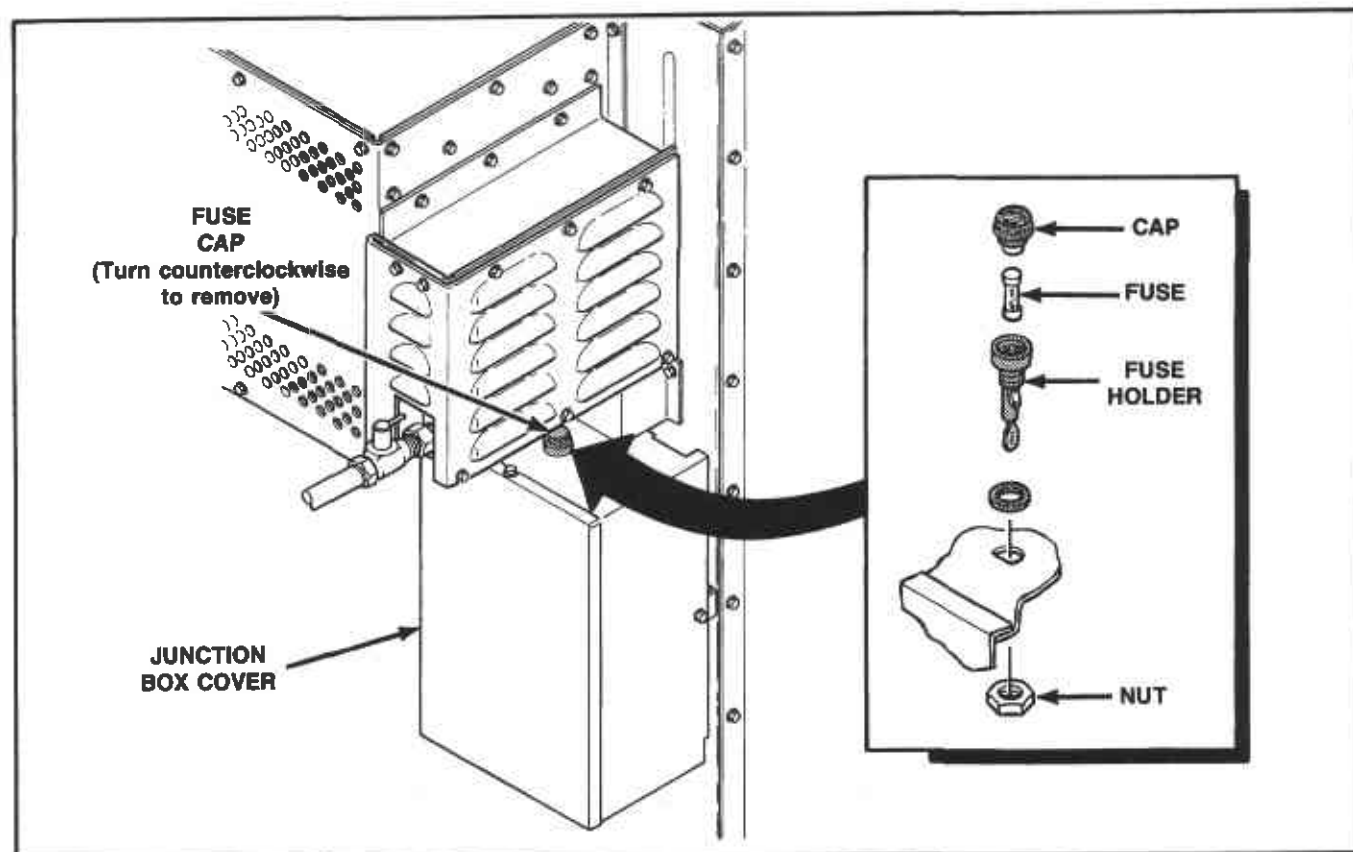

Figure 11
- Turn fuse cap counterclockwise to remove fuse, *Figure 11*.
- Remove junction box cover, *Figure 11*.